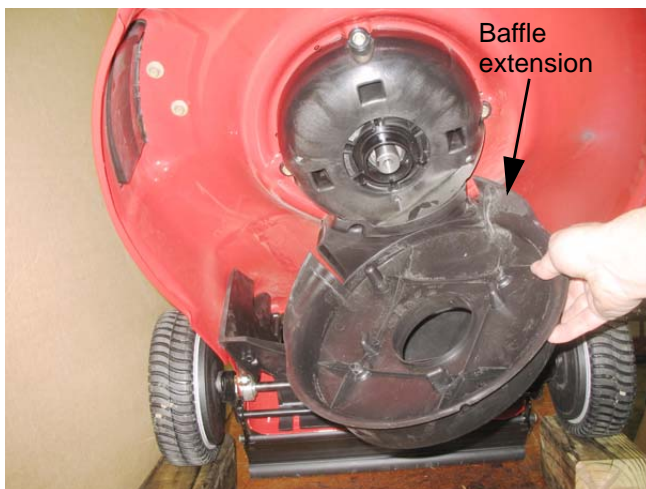

Figure 4.2
3. Remove the baffle extension cover using a 3/8" wrench. See Figure 4.2.